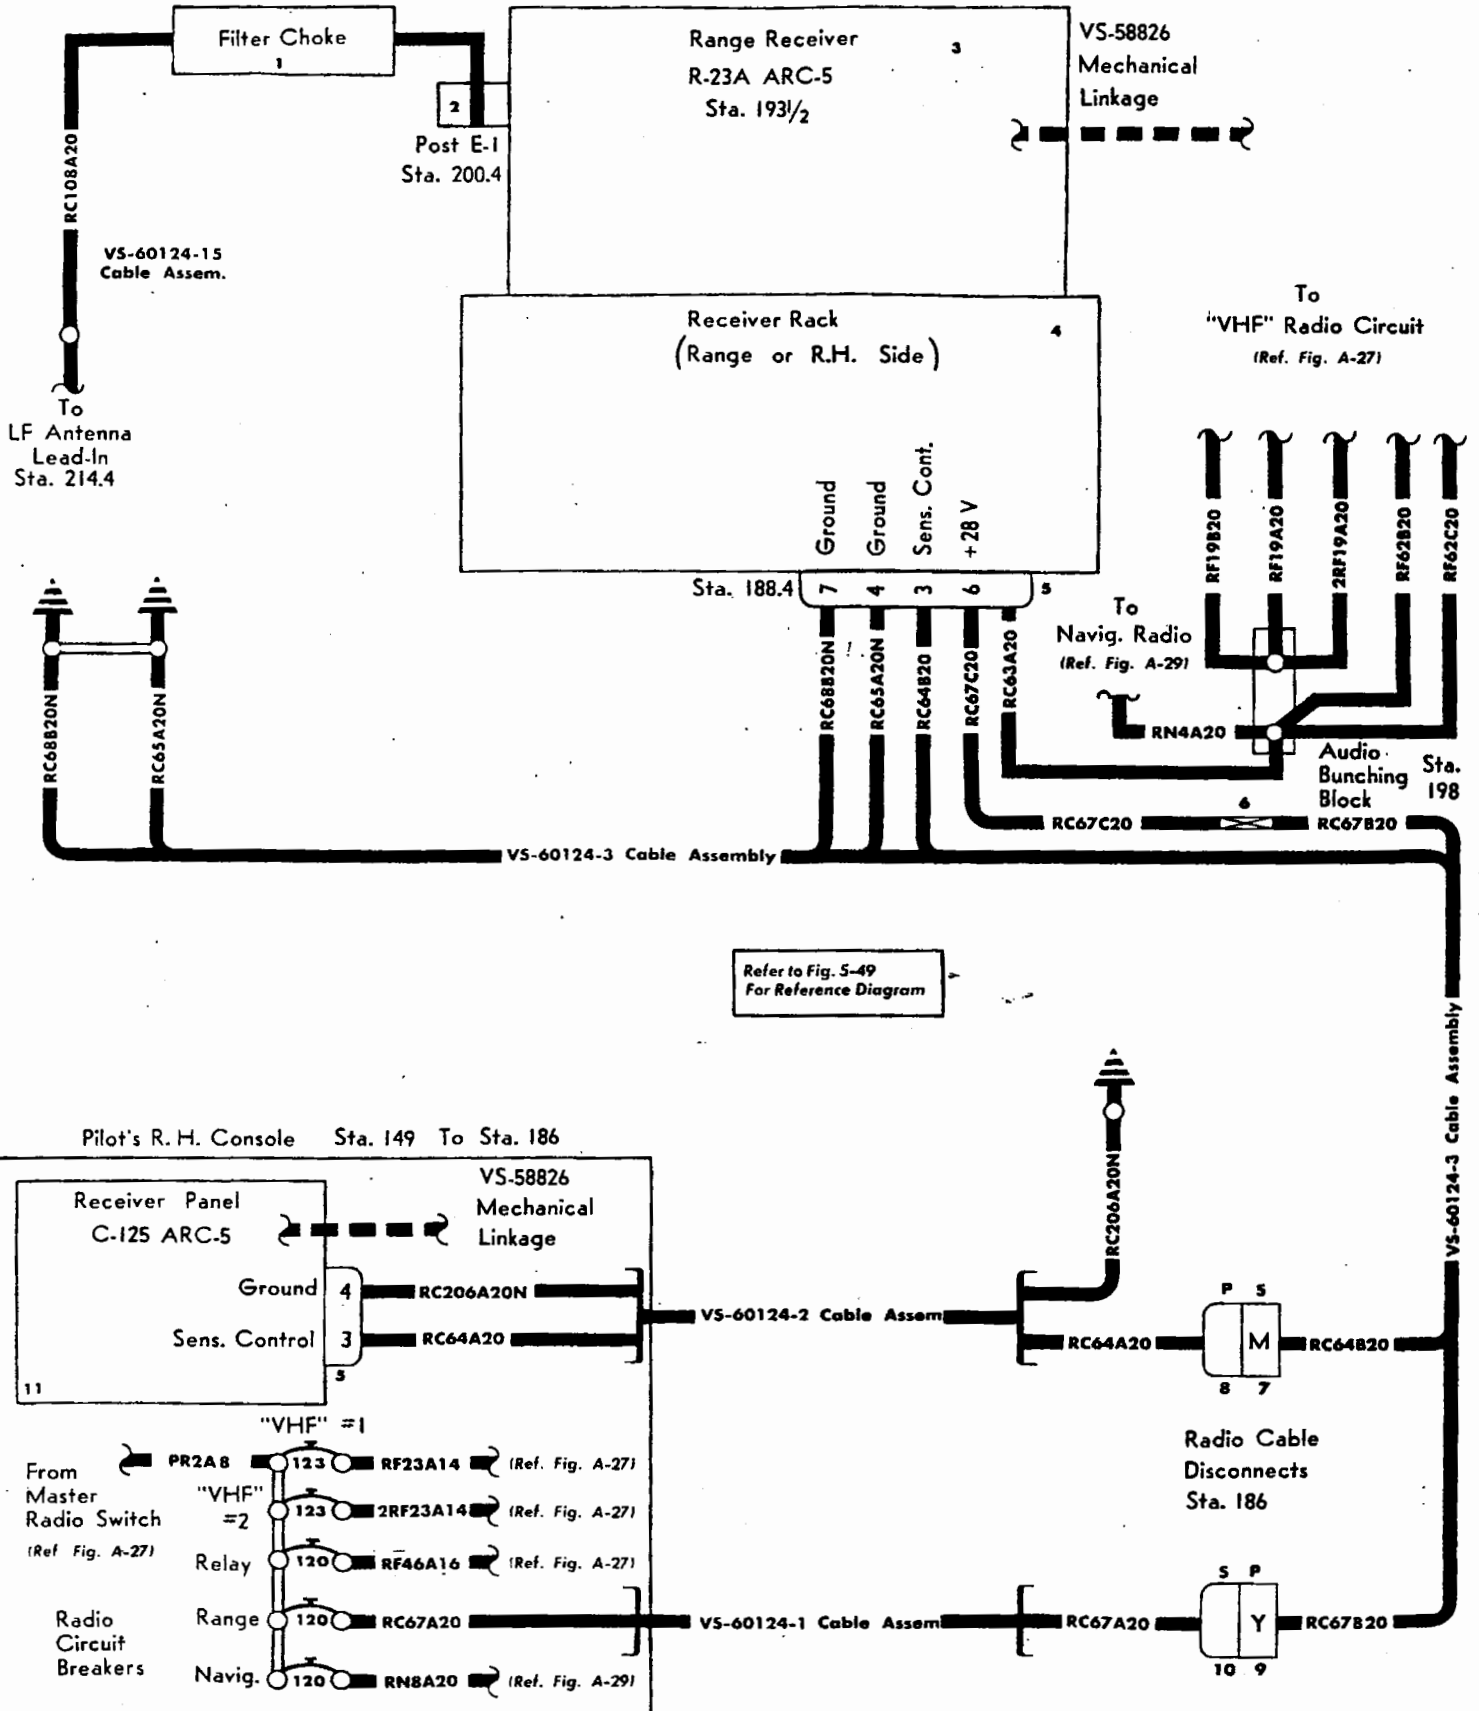

Figure A-28. R-23A/ARC-5 Receiver Cabling Diagram.
**AN/ARC-5 WIRE TABLE (See figures A-28 and 5-49)